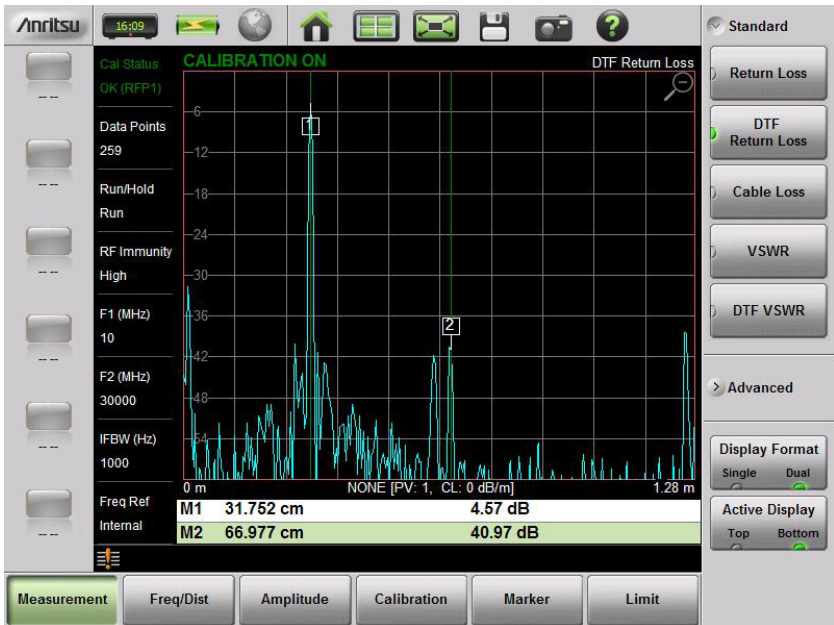

Figure 2-15. Dual Display Format with Bottom Display Maximized
- Figure 2-15 on page 2-28 shows the Bottom graph maximized. Tapping on the magnifying glass restores the dual display.